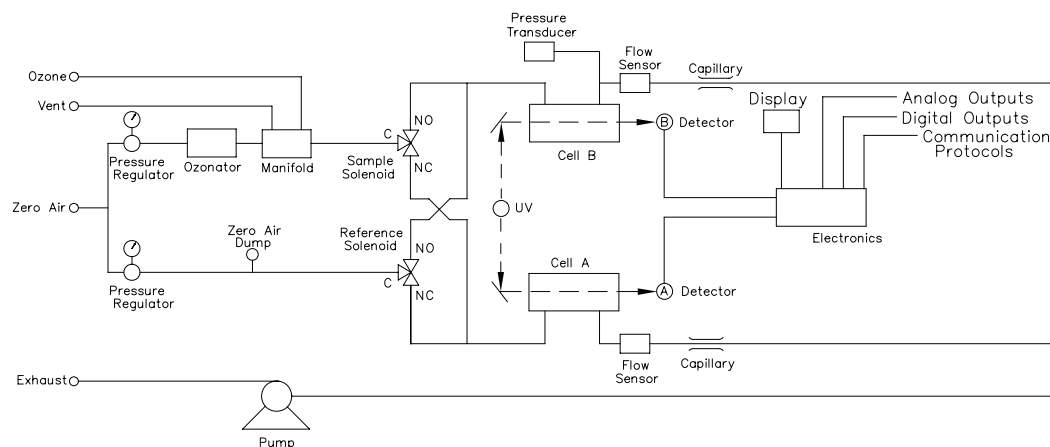

Figure 1-1. Model 49i Primary Standard Flow Schematic
Zero air is supplied to the Model 49*i* Primary Standard through the *zero air* bulkhead and is split into two gas streams, as shown in Figure 1-1. One gas stream flows through a pressure regulator to the reference solenoid valve to become the reference gas (I_o). The second zero air stream flows through a pressure regulator, ozonator, and manifold to the sample solenoid valve to become the sample gas (I). Ozone from the manifold is delivered to the *ozone* bulkhead. The solenoid valves alternate the reference and sample gas streams between cells A and B every 10 seconds. When cell A contains reference gas, cell B contains sample gas and vice versa.